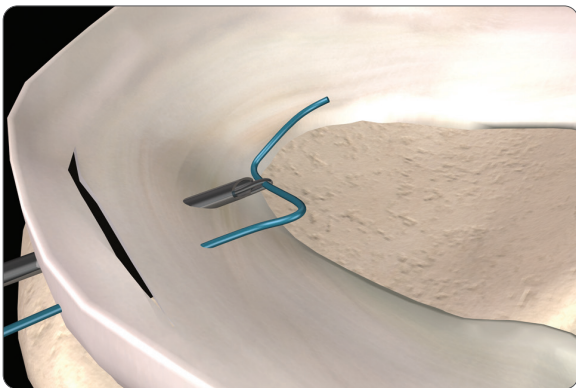

Figure 6
3. Repeat the previous step for the second needle (**Figure 6**).